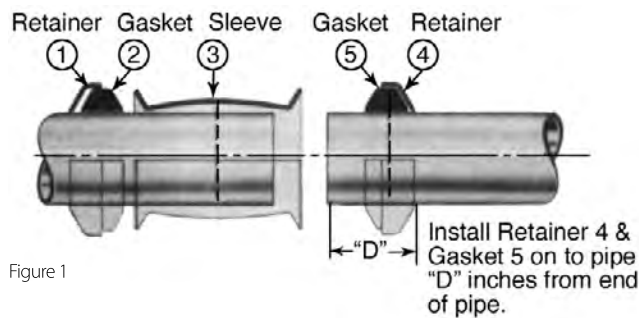
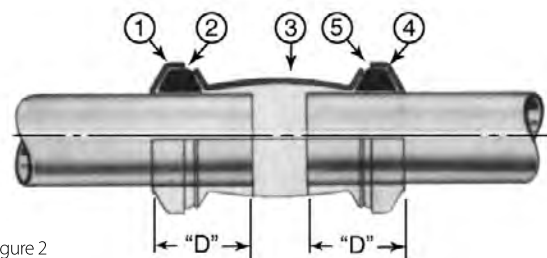

Figure 1
Figure 2
- Install retainer (1), gasket* (2) and sleeve (3) on one side of pipe in sequence shown in Figure 1.
- Install remaining retainer (4) and gasket (5) on other pipe end.
- Position retainer (4) and gasket (5) to proper pipe insertion depth ("D") as shown in Table 1.
- Slide sleeve (3) to gasket (5) and move gasket (2) and retainer (1) into position as shown in Figure 2. Pipe must be inserted to proper depth ("D") into both gaskets as shown in Table 1.
- Install both V-couplings, encompassing the retainer, gasket and sleeve as shown in Figure 4. Do not tighten either coupling until the entire joint is assembled (See Figure 2). Tighten nuts to the torque specified in Table 2. Do NOT lubricate the nut or bolt before assembly. The gap method outline in Table 3 may be used for standard gaskets only.